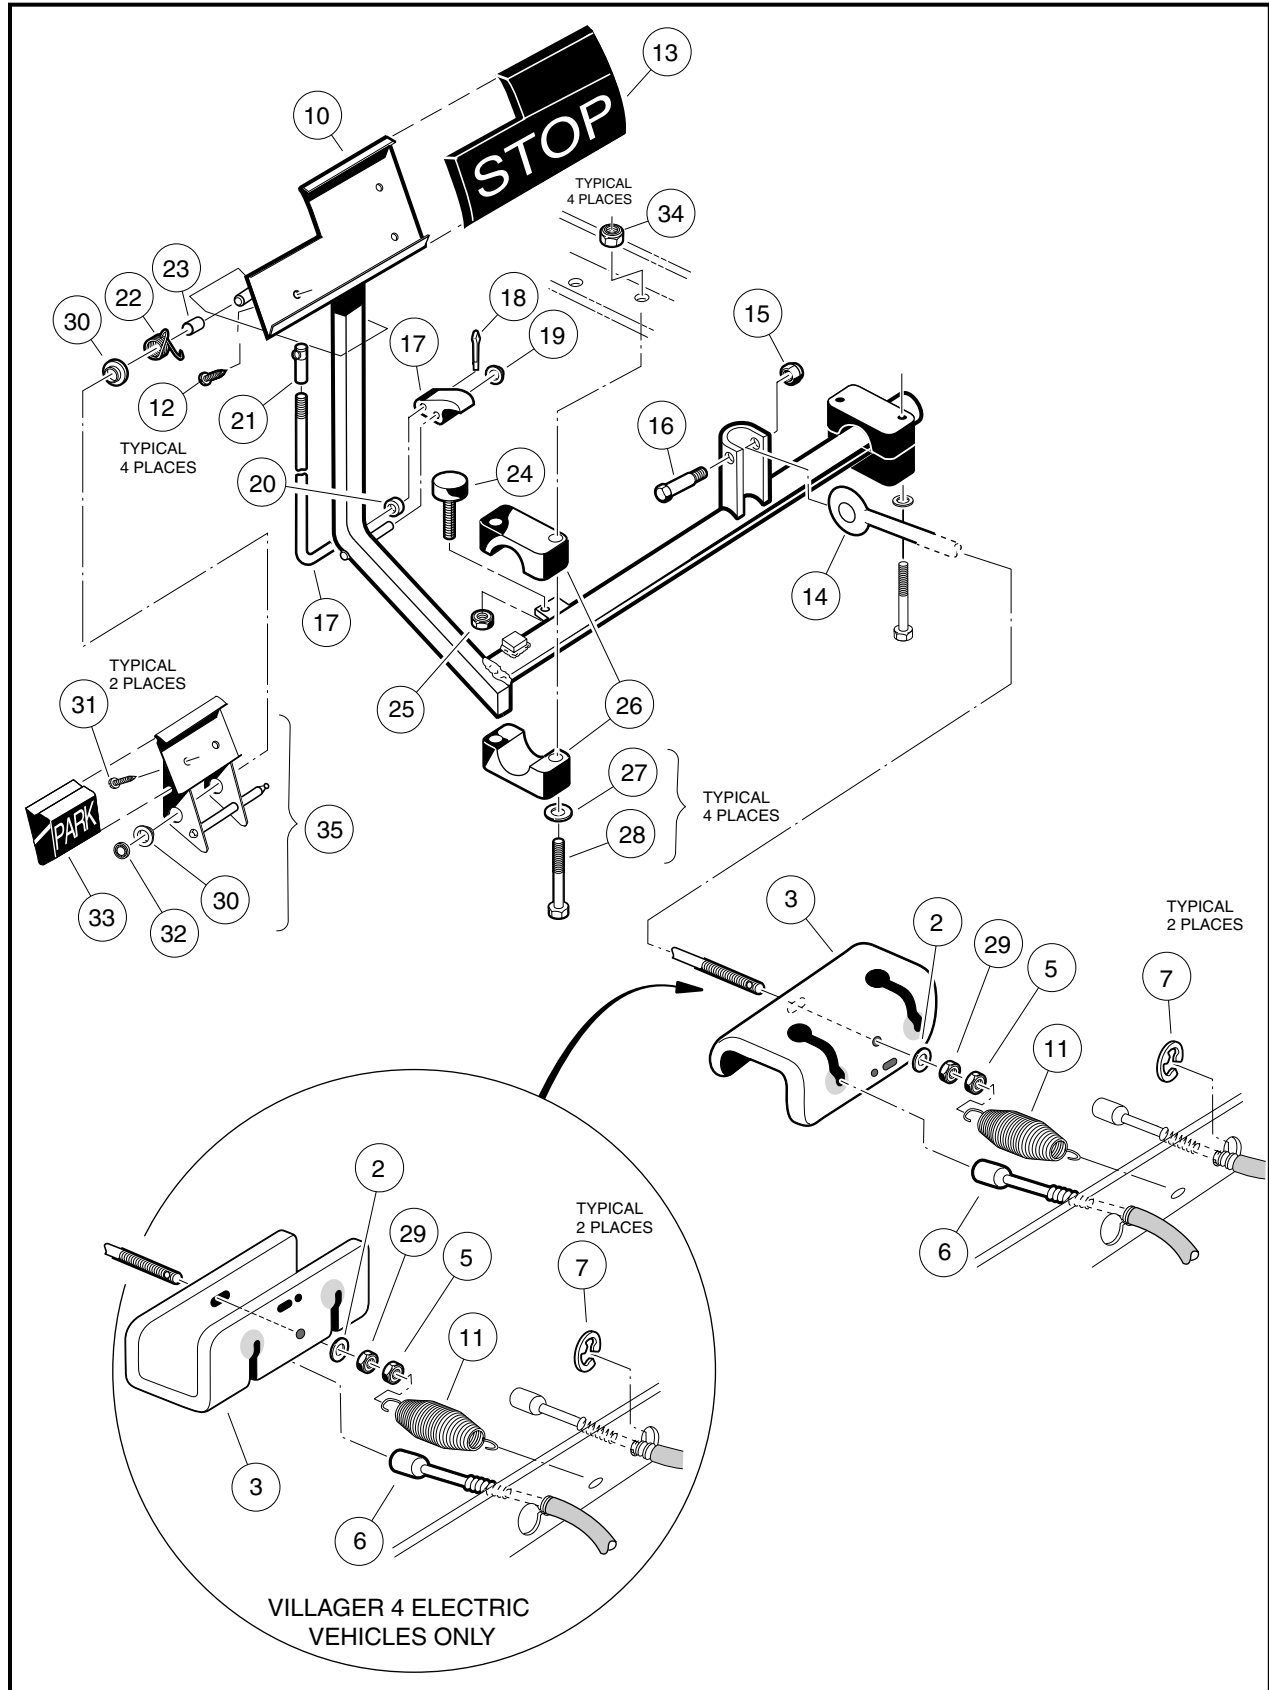
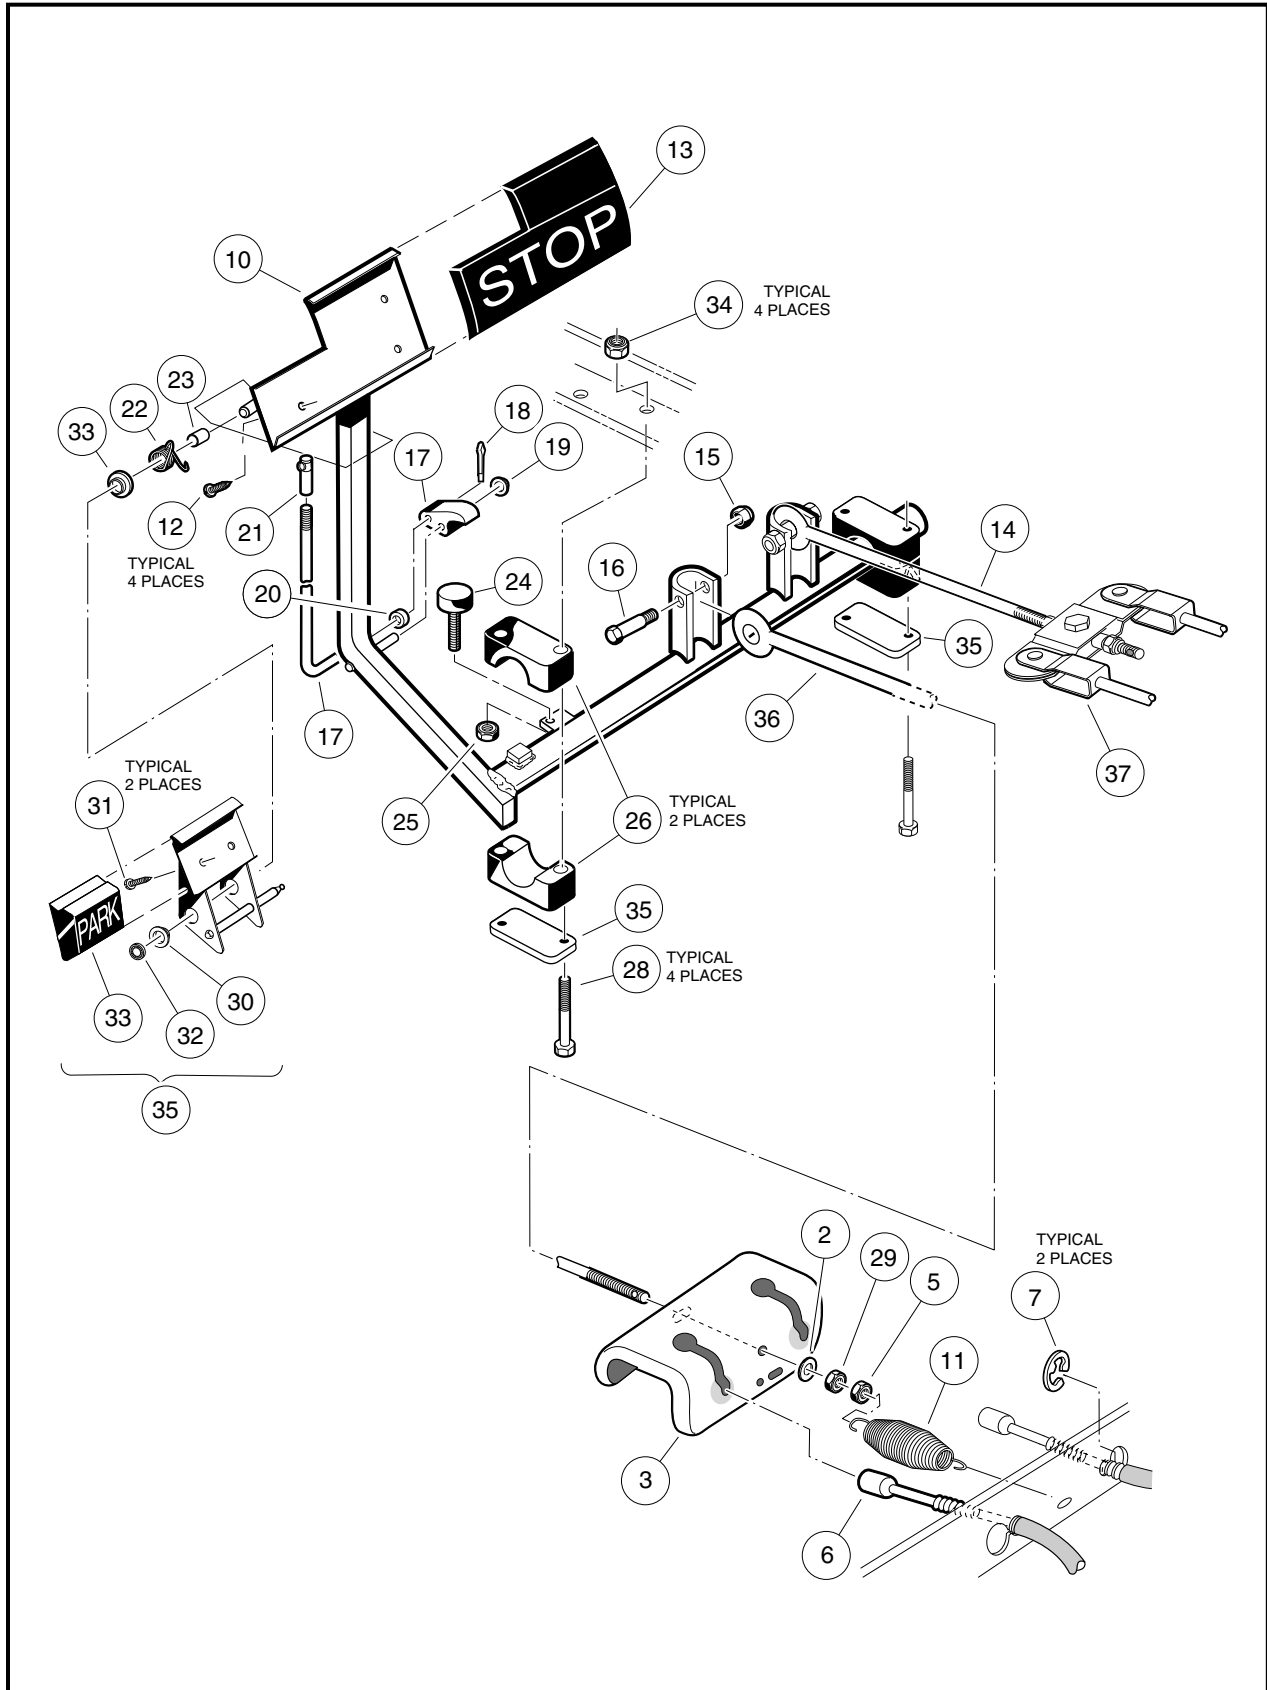
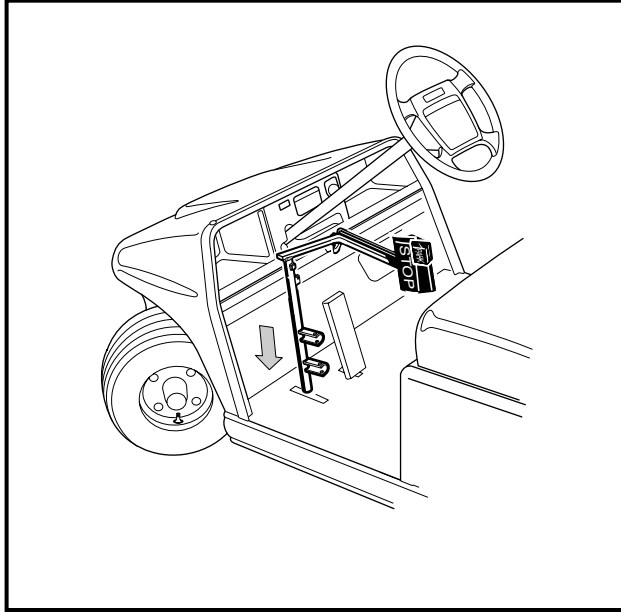

Figure 5-1 Brake and Park Brake Pedal Assembly and Mounting – Two-Wheel Brake Vehicles
Figure 5-2 Brake and Park Brake Pedal Assembly and Mounting – Four-Wheel Brake Vehicles
Figure 5-3 Brake Pedal Weldment Through Floor
- 3.1. Remove shoulder bolts (16) and nuts (15) then disconnect the rod(s) (14 and 36) from the pedal shaft (**Figure 5-1, Page 5-4 or Figure 5-2, Page 5-5**).
- 3.2.1. Remove the nuts (34), flat washers (27), bolts (28), and mounting blocks (26). If the mounting blocks (26) show signs of excessive wear or are damaged, they must be replaced with new ones before installing pedal assembly (**Figure 5-1, Page 5-4**).
- 3.3.1. Remove the nuts (34), retaining plates (35), bolts (28), and mounting blocks (26). If the mounting blocks (26) show signs of excessive wear or are damaged, they must be replaced with new ones before installing pedal assembly (**Figure 5-2, Page 5-5**).
- 3.4. Remove the nut (25) and brake stop bumper (24) (**Figure 5-1, Page 5-4 or Figure 5-2, Page 5-5**).
1. From the top side of the floorboard, insert the brake pedal assembly (10) (**Figure 5-1, Page 5-4 or Figure 5-2, Page 5-5**) through the opening in the floor as shown (**Figure 5-3, Page 5-6**) and install the brake pedal stop bumper (24) (**Figure 5-1, Page 5-4 or Figure 5-2, Page 5-5**) on the brake pedal assembly, but do not tighten the jam nut (25) at this time.
2. Attach the equalizer rod(s) (14 and 36) to the brake pedal assembly (10) as shown (**Figure 5-1, Page 5-4 or Figure 5-2, Page 5-5**). Tighten to 17 in-lb (1.9 N·m). **See following NOTE.**
3. Position and attach brake pedal assembly, mounting blocks (26), and washers (27) or retainer plates (35) to vehicle frame as shown. If the mounting blocks are made of black material, tighten the bolts and nuts to 70 in-lb (7.9 N·m). If the mounting blocks are made of white material, tighten the bolts and nuts to 113 in-lb (12.8 N·m) (**Figure 5-1, Page 5-4 or Figure 5-2, Page 5-5**).
- 3.1. To remove the park brake rod and pawl assembly (17 through 20), remove the push nut (19) and disconnect the ball joint sleeve (21) from the park brake pedal (35) (**Figure 5-1, Page 5-4 and Figure 5-2, Page 5-5**). **See following NOTE.**